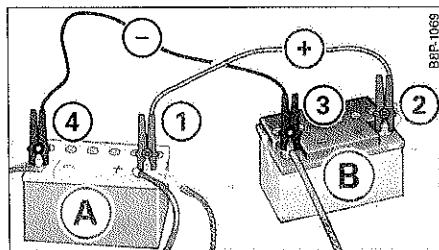

Fig. 217 Jump-starting with the battery of another vehicle: A - discharged vehicle battery, B - booster battery
If you provide start assistance for others with your vehicle, you should not clamp the minus cable (-) to the negative terminal of the discharged battery ⇒ page 314, fig. 217 (4) but to a solid metal part screwed firmly to the engine block, or to the engine block itself. In case of an inadequately ventilated battery of the vehicle receiving power, there is a danger of explosion due to detonating gas! ■
4. Connect one end of the red jumper cable to the positive terminal ① ⇒ fig. 217 of the discharged battery (A) ⇒ ⚠ in "General information of starting assistance" on page 313.
5. Connect the other end of the red jumper cable to the positive terminal ② of the booster battery (B).
6. Connect one end of the black jumper cable to the negative terminal ③ of the booster battery (B).
7. Connect the other end of the black jumper cable to the negative terminal ④ of the discharged battery (A).
- Please note that the procedure for connecting a jumper cable as described above applies specifically to the case of your vehicle being jump started. When you are giving a jump start to another vehicle, do *not* connect the minus (-) cable to the minus (-) terminal on the discharged battery ⇒ page 314, fig. 217. Instead, securely connect the minus (-) cable to either a massive metal component that is firmly bolted to the engine block or to the engine block itself. If the battery that is being charged does not vent to the outside, escaping battery gas could ignite and explode! ■
4. Connect one end of the red jumper cable to the positive terminal ① ⇒ page 314, fig. 217 in the external starting point (A) of your vehicle ⇒ ① in "General information of starting assistance" on page 313.
7. Connect the other end of the black jumper cable to the negative terminal (bolt head) ④ in the external starting point (A) of your vehicle.